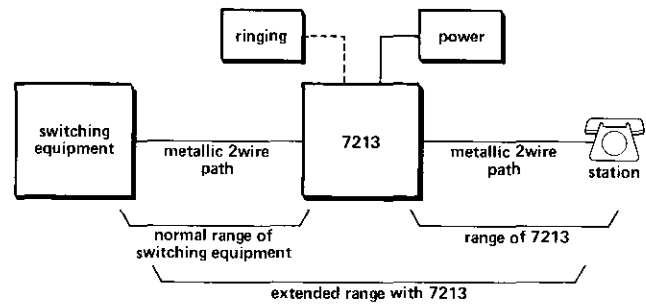

figure 2. 7213 used on 2wire metallic loop-start OPS circuit
2.01 The 7213 2Wire Hybrid Repeater module with DLL is most commonly used on a loop-start 2wire metallic foreign exchange (FX) or off-premises-station (OPS) circuit (figure 2) that requires voice-frequency gain, amplitude equalization, and signaling-range extension. The 7213 can also be used on a ground-start 2wire metallic PBX-to-CO trunk or on a ground-start PBX line. In any of these applications, the module provides balanced longitudinal isolation between the switch and station sides, thus improving circuit balance and reducing noise.